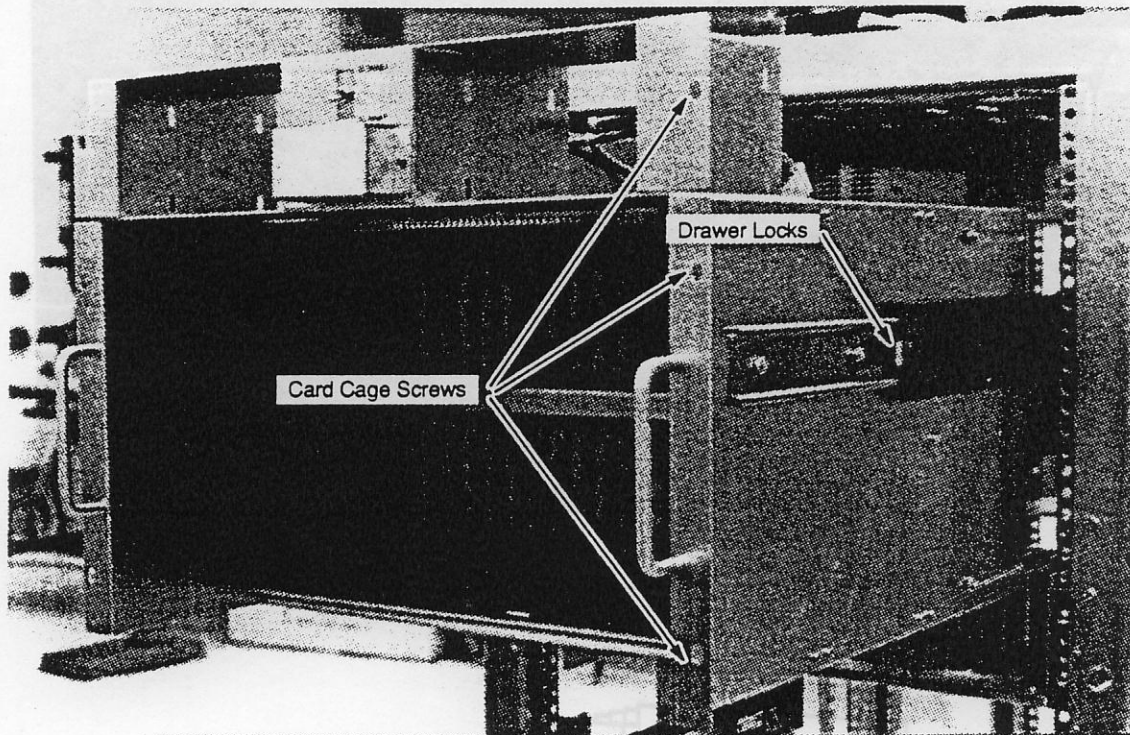

Figure 7-10. IOS VME Card Cage
4. Remove the screws securing the card cage. Refer to Figure 7-10.
6. Pull the card cage out as far as it will extend (the drawer has locks as shown in Figure 7-10), and then remove the entire maintenance small computer system interface (SCSI) as directed in the following steps.
11. Release the card cage locks and pull the card cage completely out. Refer to Figure 7-10.